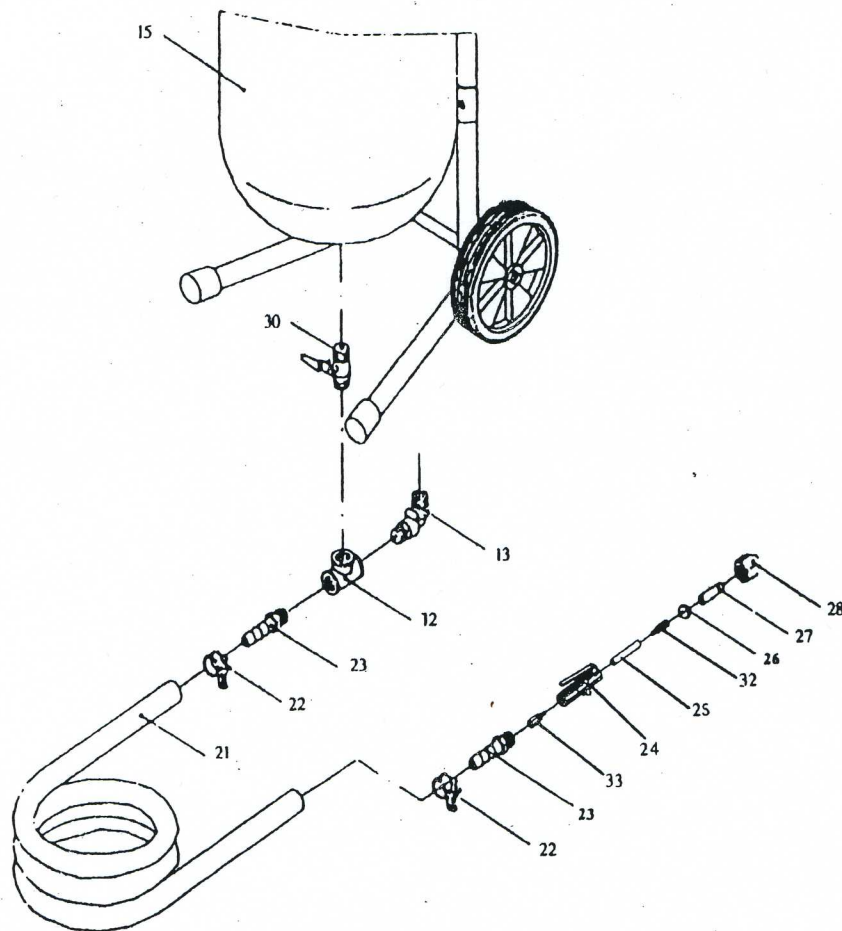

FIGURE 2
Abrasive Metering Valve and Nozzle DEADMAN Valve Assembly (Refer to Figure 2)
- Step 1: Get out all required parts as shown in the Figure 2.